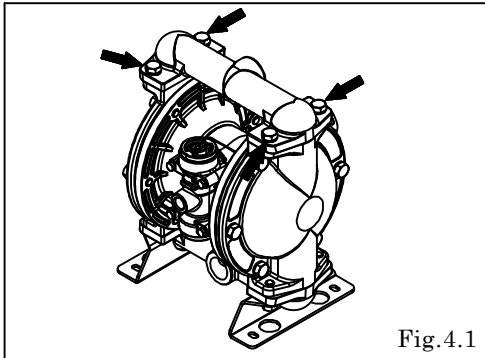

Fig.4.1
- Remove 4 mounting bolts from upper manifold and remove the manifold. [Fig.4.1]